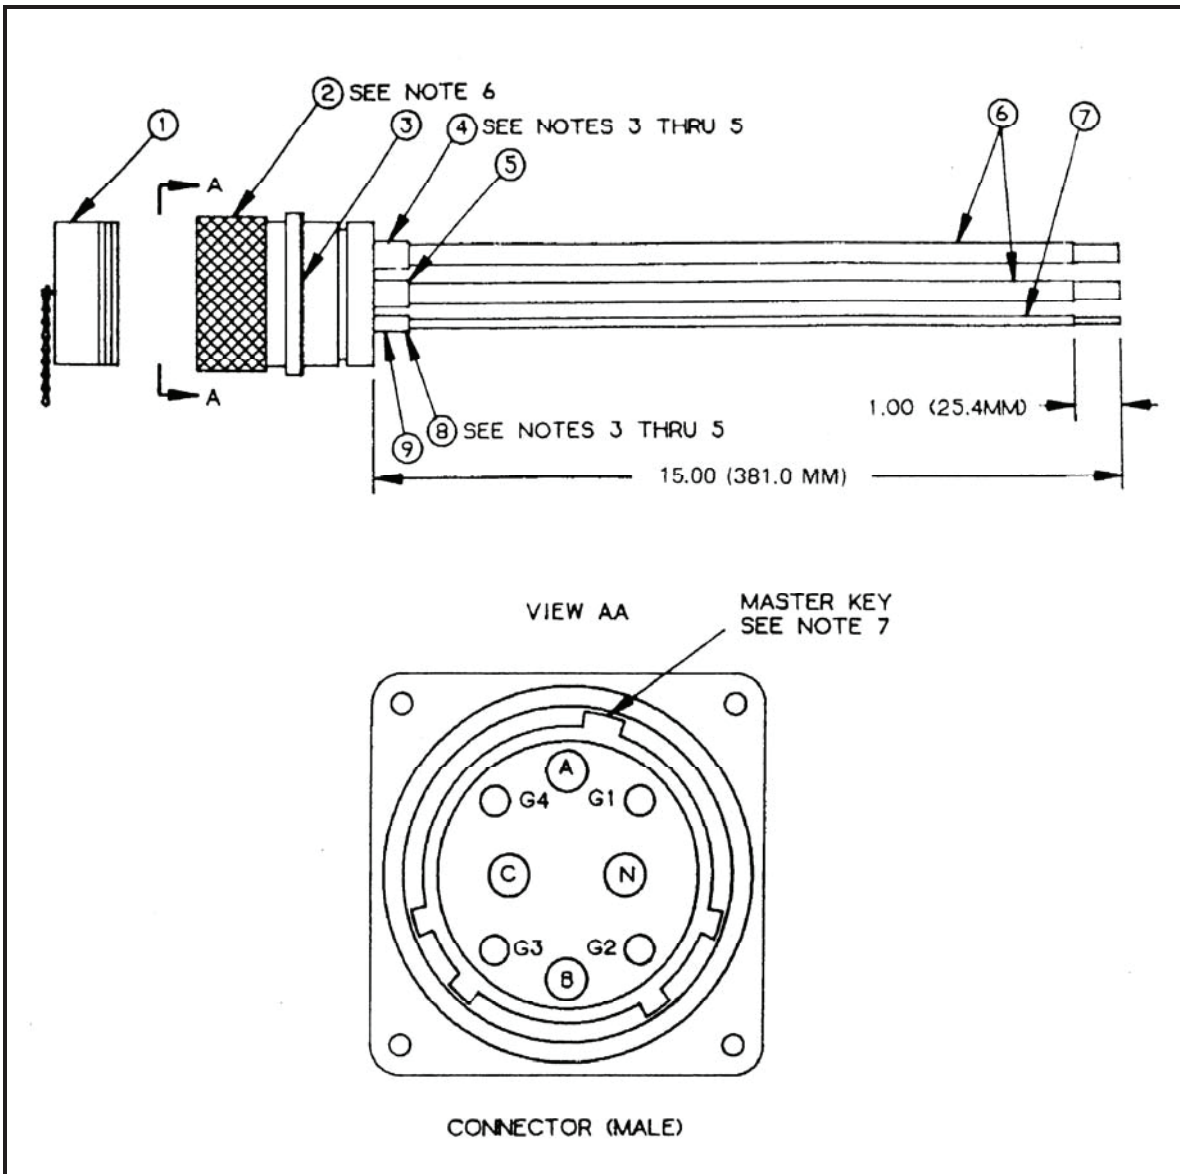

Figure F-27. Feeder Center Input Connector, M100 A/P (PDISE), 100-Amp (J1)
F-27 (Feeder Center Input Connector, M100 A/P (PDISE), 100-Amp (J1))**Component Legend for Figure F-27**
- c. Electrical connector (Figure F-27, Item 2) is furnished with the following: